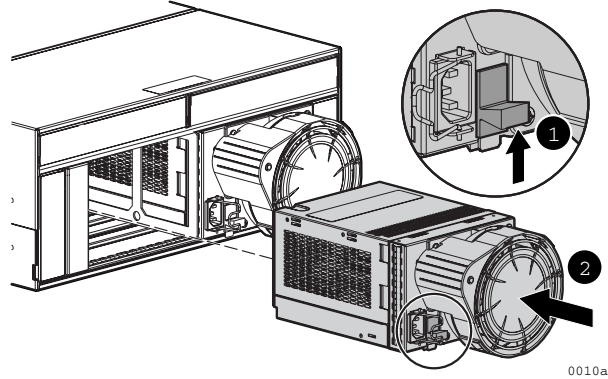

Figure 5 Installing a power supply
1. Lift up on the module latch (1, Figure 5) and slide the power supply into the enclosure until it is fully seated.